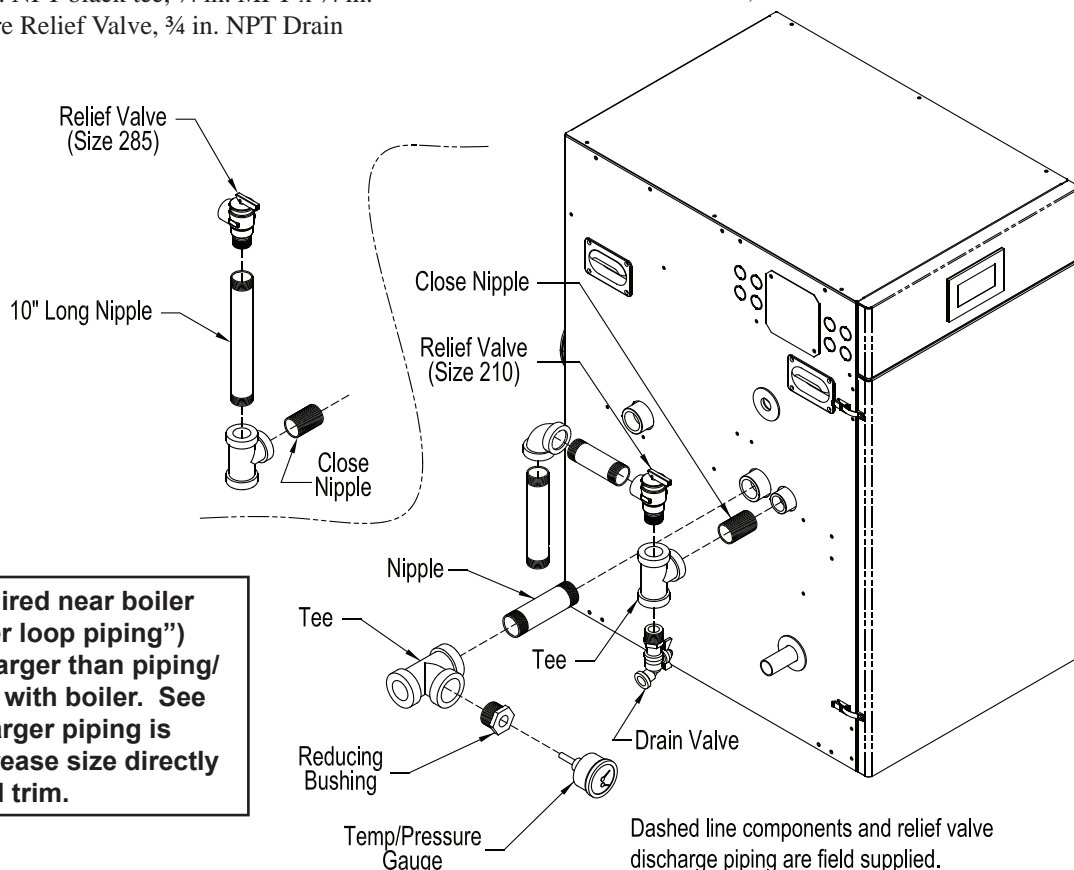

Figure 20: Factory Supplied Piping and Trim Installation
Phantom boilers have factory supplied Miscellaneous Part Carton which includes supply piping components, gas piping components, Temperature & Pressure Gauge, Pressure Relief Valve and Drain Valve. See Figure 20 "Factory Supplied Piping and Trim Installation".
1. Safety Relief Valve (Required) - The relief valve is packaged loose with boiler and must be installed in the location shown in Figure 20 "Factory Supplied Piping and Trim Installation". The relief valve must be installed with spindle in vertical position. Installation of the relief valve must comply with ASME Boiler and Pressure Vessel Code, Section IV. The standard factory shipped relief valve is rated for 30 PSI maximum working pressure for PHNTM210 and PHNTM285. Optional 50 PSI, 80 PSI and 100 PSI maximum working pressure rated relief valves are available. If the valve is to be replaced, the replacement valve must have a relief capacity equal or exceeding the minimum relief valve capacity shown on the ASME plate. Pipe the relief valve discharge to a location where hot water or steam will not create hazard or property damage